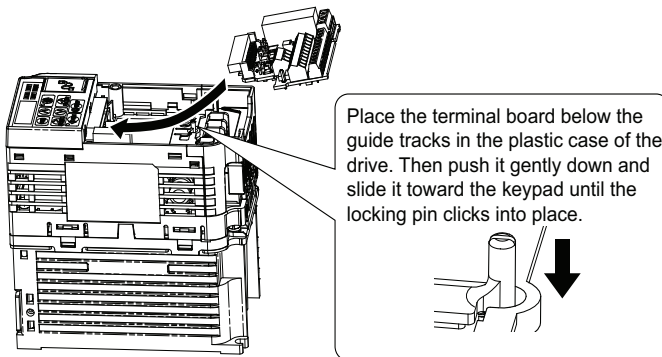

Figure 20 Terminal Board Reinstallation
5. Install the JVOP-TBVA03B□□ Option on the drive according to Figure 20.